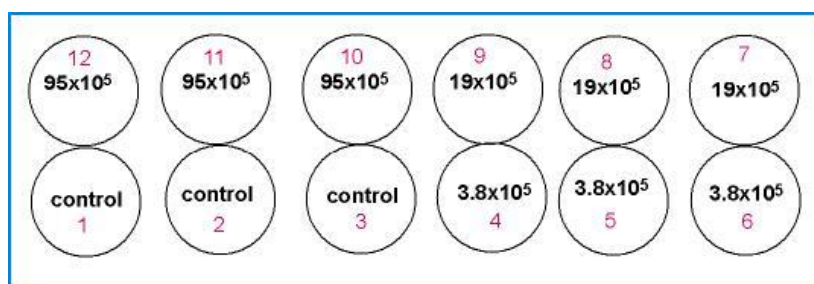

Figure 1. Arrangement of buckets: The bacterial dosage is shown as cfu/ml
- The challenge is carried out in triplicates as shown in Figure 1.